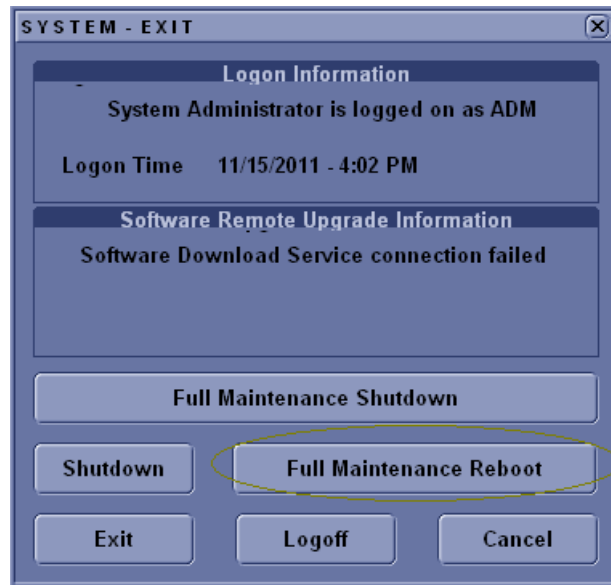

Figure 7-32 Full Maintenance Reboot window
- 6.) Press power switch, select Full Maintenance Reboot to reboot system, see Figure 7-32 on page 7-27.